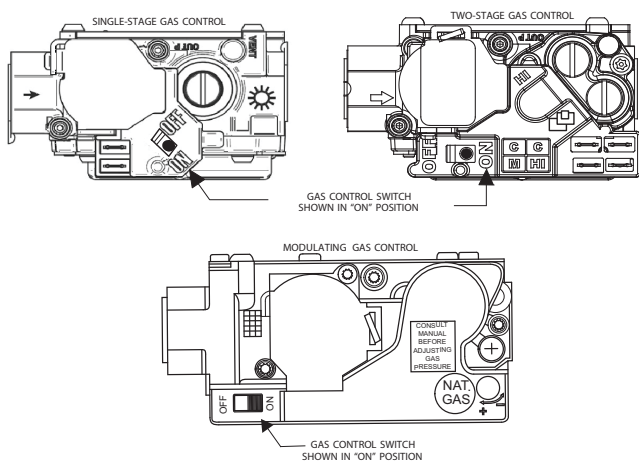

Fig. 12 – Control Switch to ON
6. After waiting five minutes, turn control switch on the gas control to the ON position. Turn the control switch to ON. See Fig. 12.